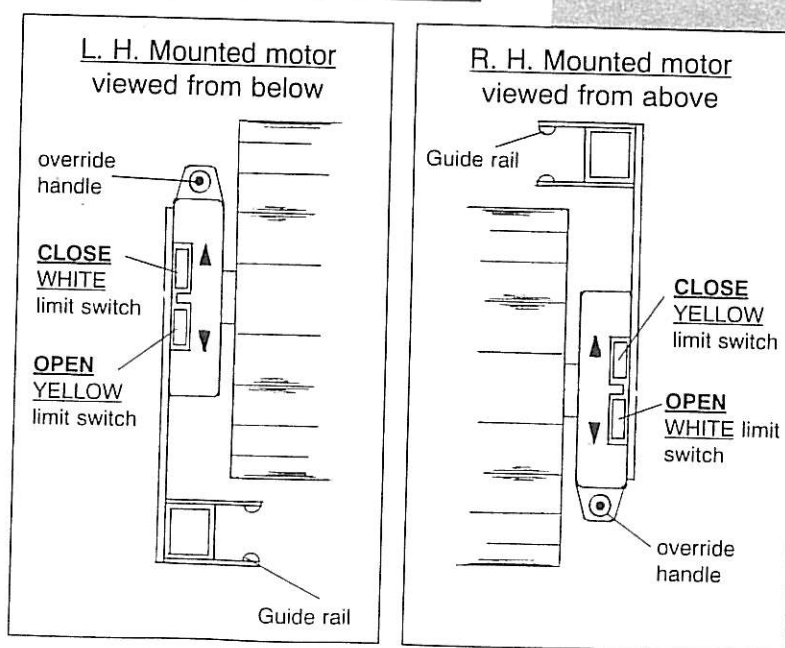

Fig 25
9.1.2 Remove the protective cap from the head of the motor. (see Fig 25)
9.1.3 Fully depress both limit switch buttons. (see Fig 25). They will automatically lock in the down position.
9.1.5 Identify the OPEN limit switch button on the motor (see Fig 25 for RH or LH mounted motor).
- 9.2.2 Identify the CLOSE limit switch on the motor (see Fig 25).